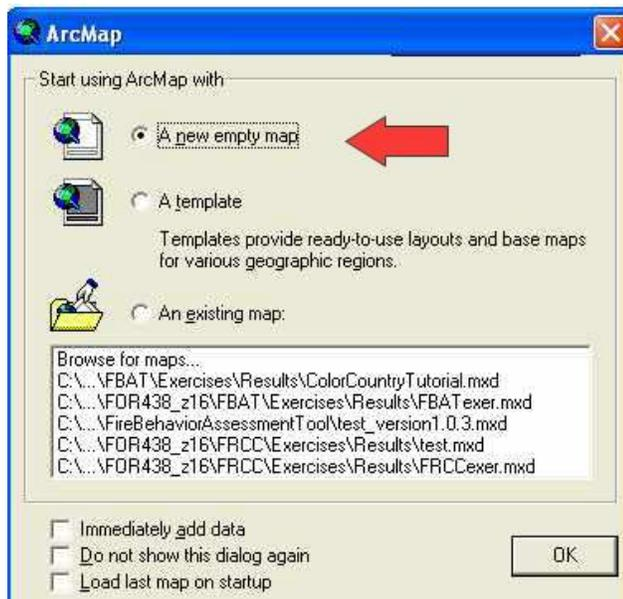

Figure 7-5. Creating a new project.
- Start ArcMap and select **A new empty map** as shown in figure 7-5: